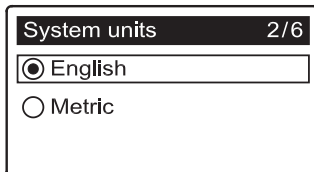

FIG. 9
- 3. SYSTEM UNITS** If the desired system already has a black dot next to it (See Figure 9), go to Step 4. Otherwise, press the DOWN (▼) or UP (▲) buttons to scroll to the desired system, then press the SELECT (○) button to choose it.